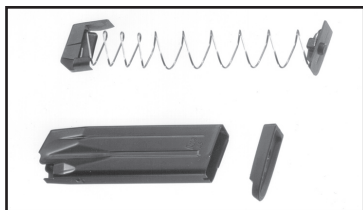

Figure 11A
3. Place the locking plate onto the protruding end of the magazine spring so that the locking detent is visible (see Figure 11A).